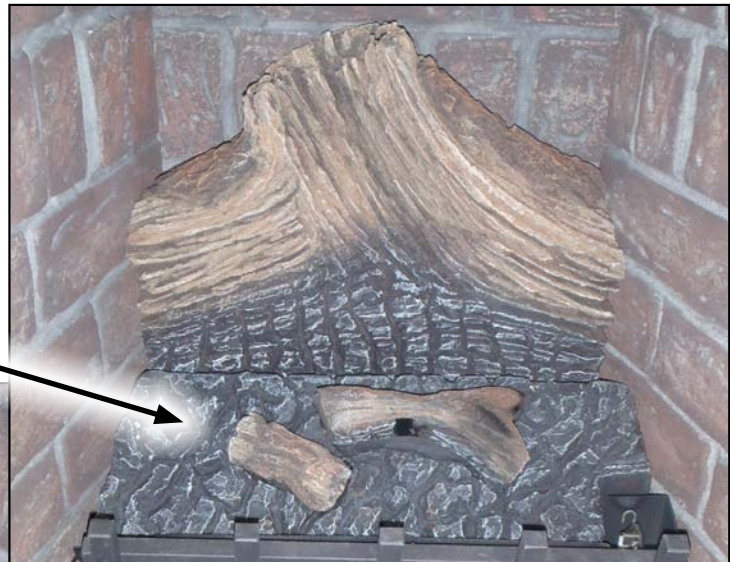

Figure 36. Back Log and Ember Bed Installation.
**Step 1:** Place the back log on the top ledge of the air diffuser with back up against the rear brick panel. Install the ember bed assembly into the firebox as shown, making sure the ember bed is up against the front lip of the firebox air diffuser (Figure 36)